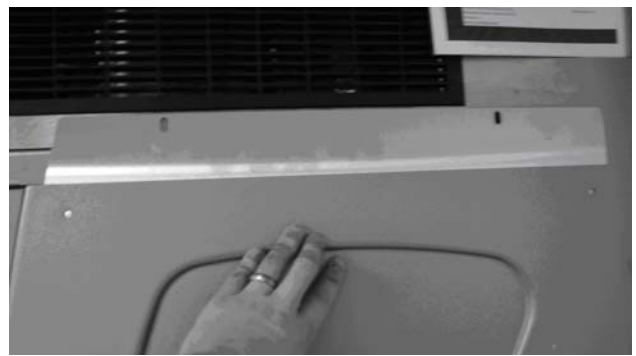

Figure 10
4. There are two options for installing the brackets, outside of the side panels or behind the side panels, as shown in Figure 10. Right side of unit is shown in Figure 10.